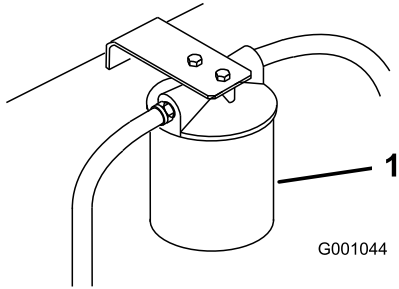

Figure 75
3. Place drain pan under filter, remove the old filter and wipe the filter adapter gasket surface clean (Figure 75).